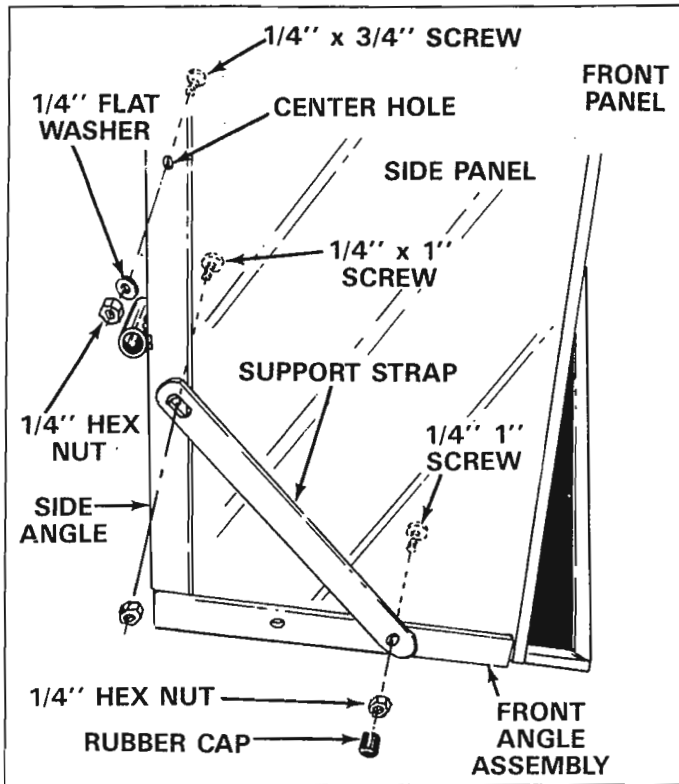

FIGURE 6
9. Place one side panel in position, against side angle and down on top of front panel. Start one 1/4" x 3/4" truss head screw through the center hole in side panel and side angle. Secure with hex nut and flat washer. See figure 6. **Make only finger tight at this time.**
10. Start one 1/4" x 1" truss head screw through front hole on side panel and side angle. Start another 1/4" x 1" truss head screw through top hole on side panel and front angle assembly, next place support strap over these two screws, secure with hex nuts and cover threads of top screw with a rubber cap. See figure 6. **Make only finger tight at this time.**